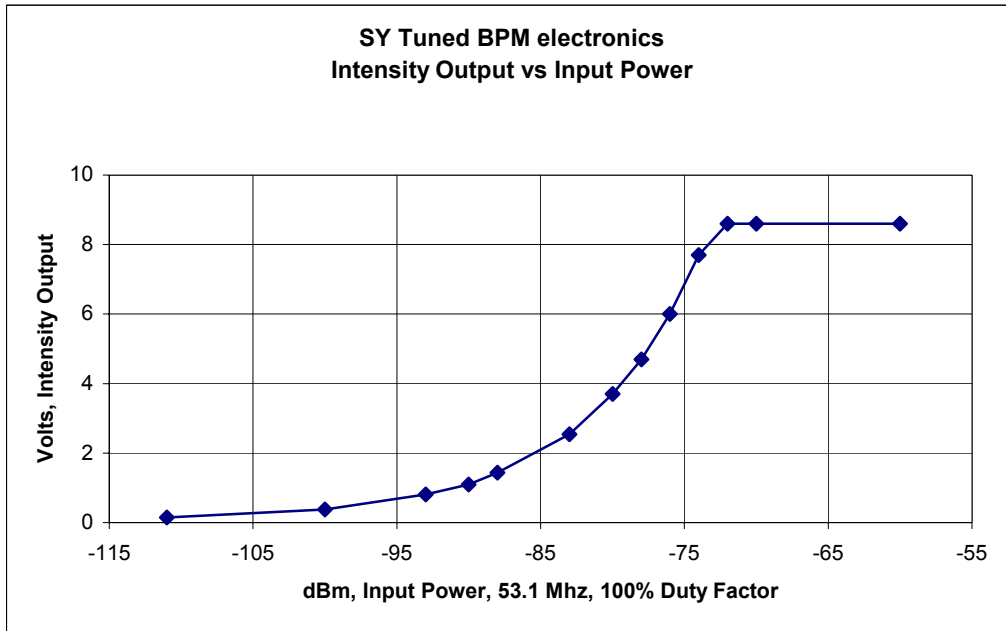

Fig. 1
1. The maximum RF Input Power at 100% Duty Factor (DF), vs. Intensity Output before an internal component reaches saturation or a clipping level. The Charts in Fig 1 shows saturation or clipping at an input power level of -71 dBm This test was done at a 100% Duty Factor (DF) at 53.1 Mhz, using test setup No. 1.